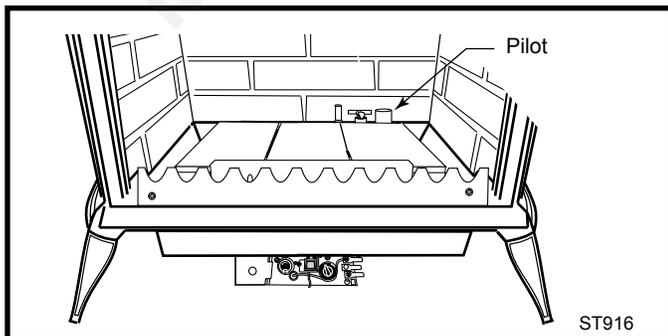

**Fig. 77** Remove mounting screws from old pressure regulator assembly. Replace step motor with new conversion step motor.
1. Using the TORX T20 bit remove and discard the three (3) pressure regulator mounting screws from the old pressure regulator assembly. (Fig. 77)
2. Insure the rubber gasket (D) is properly positioned and install the new step motor (E) pressure regulator assembly to the valve using the new screws supplied with the kit. Tighten the screws securely. (Ref. torque = 25 in/lb) (Fig. 77)
3. Install the identification label (F) supplied with the stepper motor to the valve body where it can easily be seen. (Fig. 77)